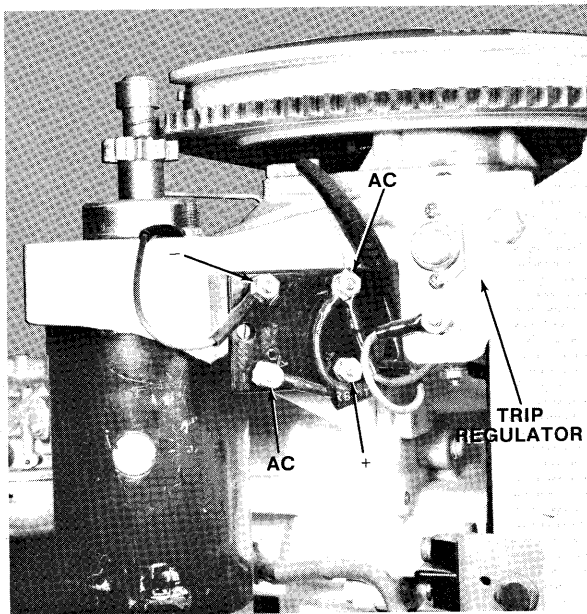

Figure 3—Rectifier with Wires Connected
- B. Disconnect black lead wire from top left terminal post (-) by removing hex nut. See figure 3.
- C. Disconnect black lead wire and purple lead wire from top right terminal post (AC) by removing nut.
- D. Disconnect black lead wire from bottom left terminal post (AC) by removing nut. See figure 3.
- E. Disconnect red lead wire from bottom right terminal post (+) by removing nut. See figure 3.
- F. Remove two (2) screws securing rectifier to powerhead and remove rectifier.
- A. Install rectifier on powerhead as shown in figure 3 and secure with two (2) screws.
- C. Connect black lead wire to bottom left terminal post (AC) and secure with spring lockwasher and nut. See figure 3.
- D. Connect black lead wire and purple lead wire to top right terminal post (AC) and secure with spring lockwasher and nut. See figure 3.
- E. Connect black lead wire to top left terminal post (-) and secure with spring lockwasher and nut. See figure 3.